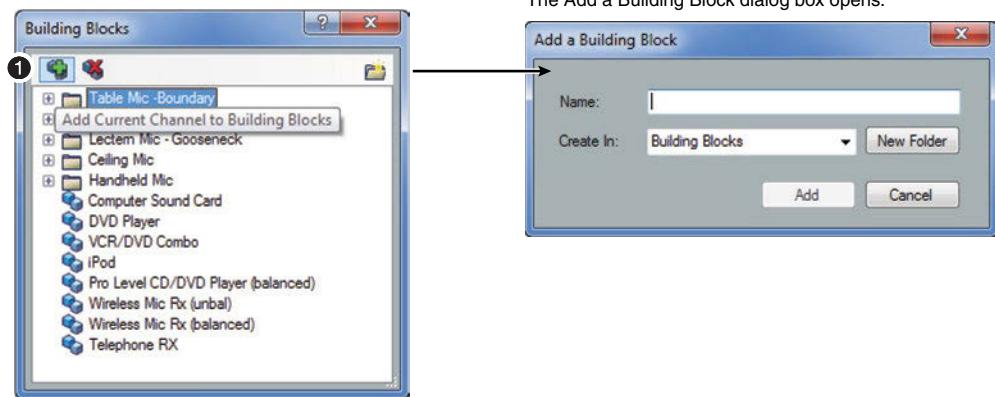

Figure 68. Adding a Build Block
3. **Add a building block:** In the dialog box, select the **Add Block** icon (green plus sign, see figure 68, ①).